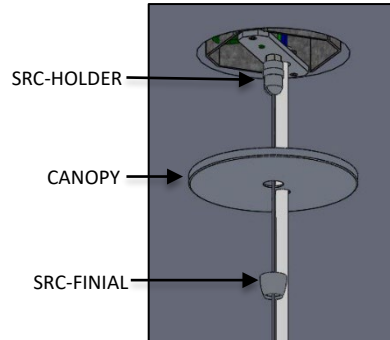

FIG. 27 – FINIAL INSTALLATION
10. Raise CANOPY and secure to ceiling by threading the SRC-FINIAL to SRC-HOLDER.as shown below in FIG.27.